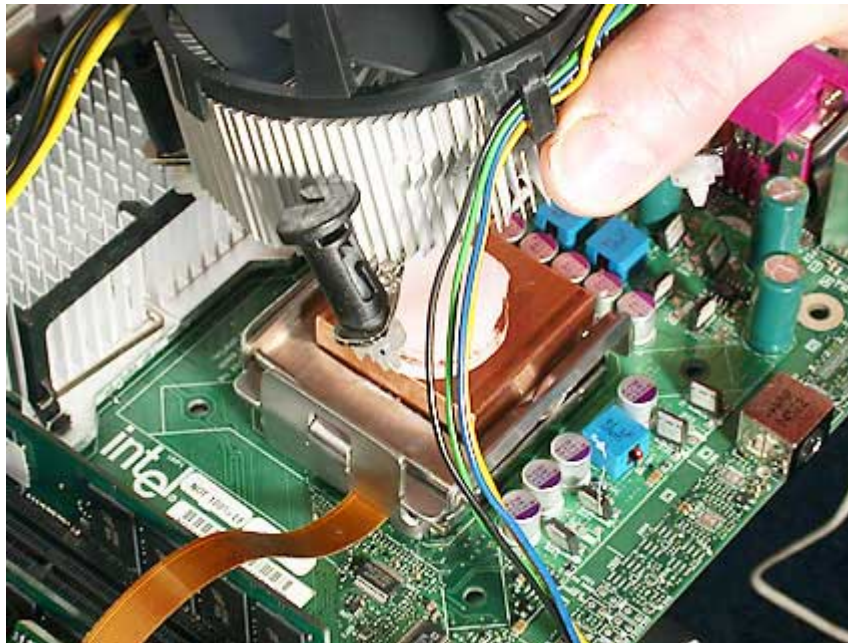

Figure 2.13 Placing the heat sink and fan onto the Heat Sink Spacer
13. Apply heat sink compound to the top of the Heat Sink Spacer and then place a combined heat sink and fan on top of it. The standard heat sink and fan intended for the board under test can normally be used on top of the interposer (Figure 2.13).